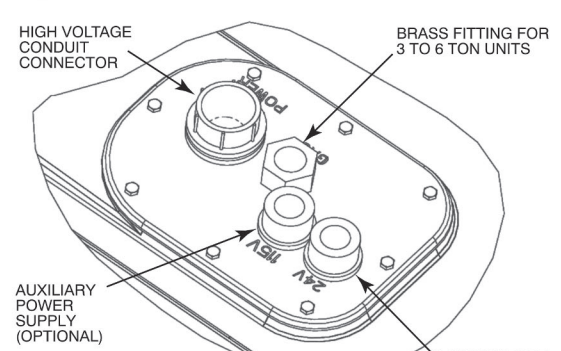

Fig. 1 — Thru-Base Gas Connection Fittings (Four Hole Cover Plate Shown)
The cover plate is located in the compressor compartment of the unit, directly below the control box (see Fig. 1). Remove the blank cover plate from the unit. Discard the blank cover plate but reserve the screws. Depending on the number of connectors required, select either the (3) hole or the (4) hole cover plate. Adhere the gasket to the underside of the selected cover plate. Attach the desired bulkhead connectors to the cover plate (see Table 3) and then, using the reserved screws, attach the cover plate with the bulkhead connectors to the opening in the basepan.